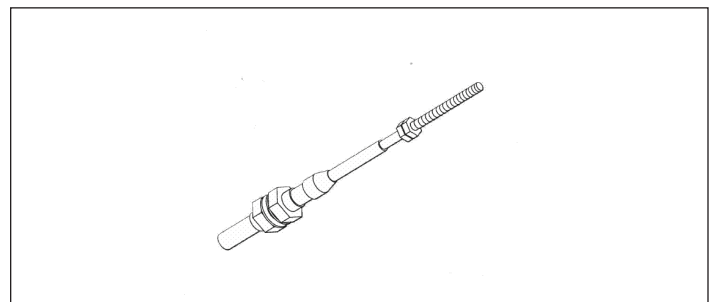

Figure 10. Step 8 - Cable Prep
3. Two loose nuts should be positioned on the threads of each rod. Shoulder the lower nut against the end of the rod threads until the nut stops. Using two 3/8-inch wrenches, tighten the upper nut against the lower nut (see **Figure 10**).